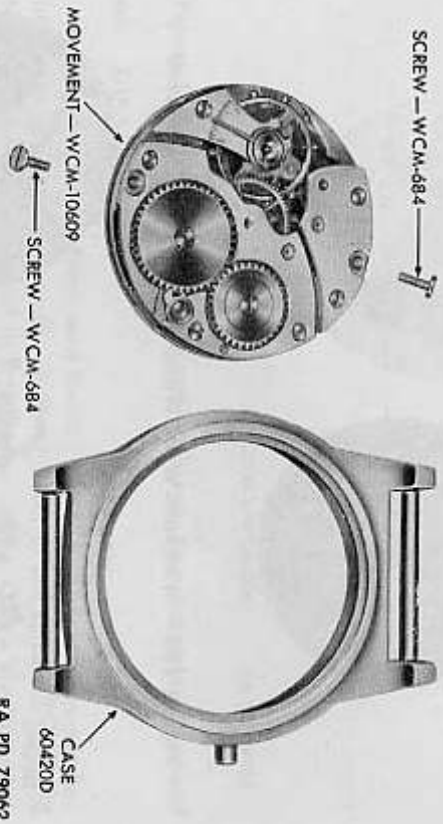

Figure 154 — Waltham Wrist Watch — Movement Removed From Case
- e. Remove Movement From Case Band (fig. 154). Remove two case screws. Hold movement in place on movement block and lift off case band.
**l. Replace Movement in Case (fig. 154).** Invert movement on movement block. Place case band over movement and align winding arbor hole with winding pinion and clutch hole. Replace two case screws and secure.